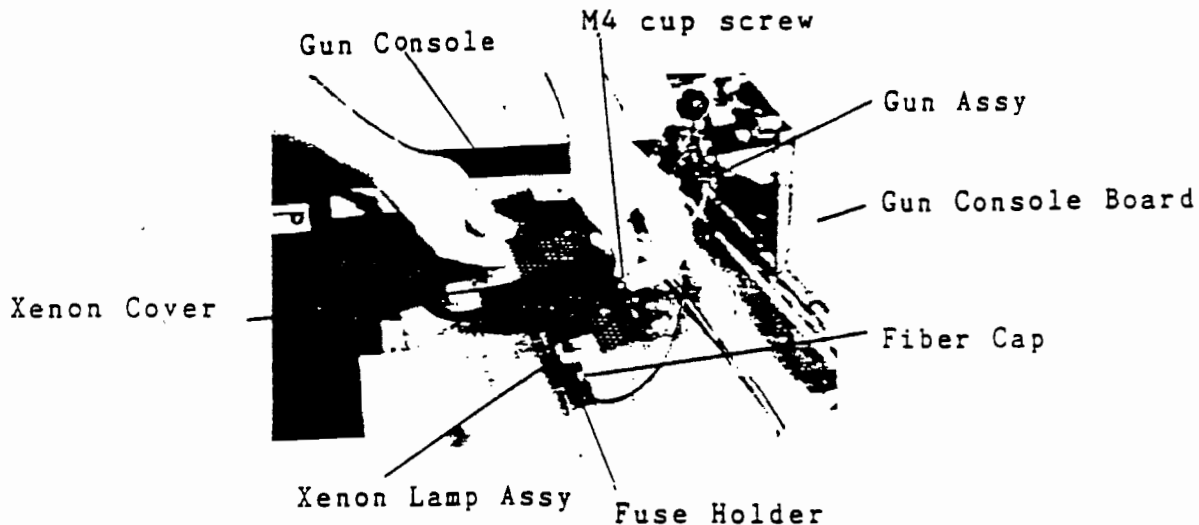

fig.7-9
(4) Replacing the Gun Assy
- ① Open the gun console board on the gun console and pull out the connector (2P) of the gun assy to be replaced.
- ② Remove the xenon cover (M4 cap screws : 2), and pull out the fiber cap. [Ref. Fig. 7-9]
(8) Replacing the Xenon Lamp Assy
- ① Open the gun console board and remove the xenon cover of the xenon lamp to be replaced (M4 cap screw : 2). [Ref. Fig. 7-9]